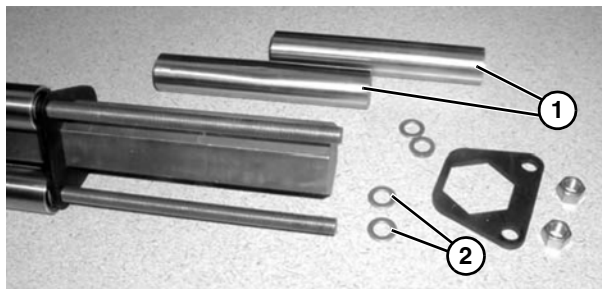

Figure 52
- Remove pulleys (**Figure 52, item 1**) and additional washers (**Figure 52, item 2**).